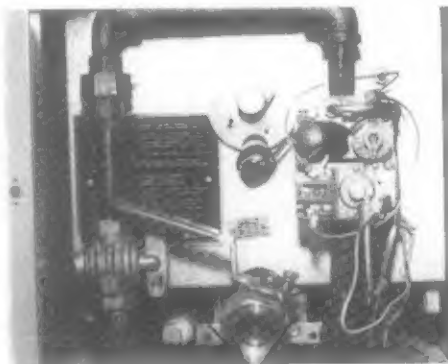

Fig. 10
- 4) Remove the 2 burner hanger screws. See Figure 10.